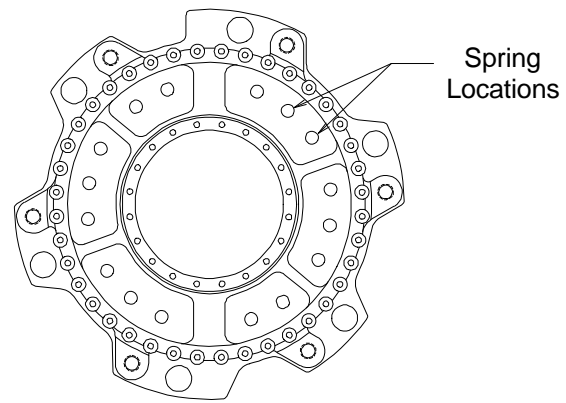

Fig. 11
- 4.9.20 Install the springs in a symmetrical pattern on the pressure plate subassembly (13), distributing them as evenly as possible. Locate the springs over bosses or in the spring pockets in the pressure plate, as shown in Figure 11. If applicable, position the spring retainers (53) on top of the springs to hold the springs into position.